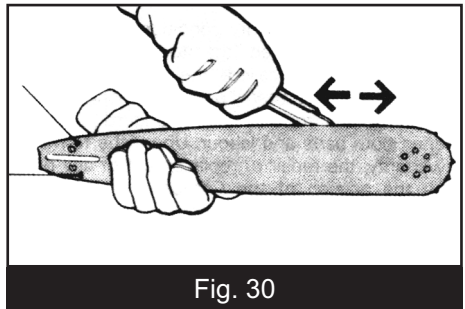

Fig. 30
1. When you have finished working, clean out the groove and the oil passages, with a special scraping hook. (Fig.30).